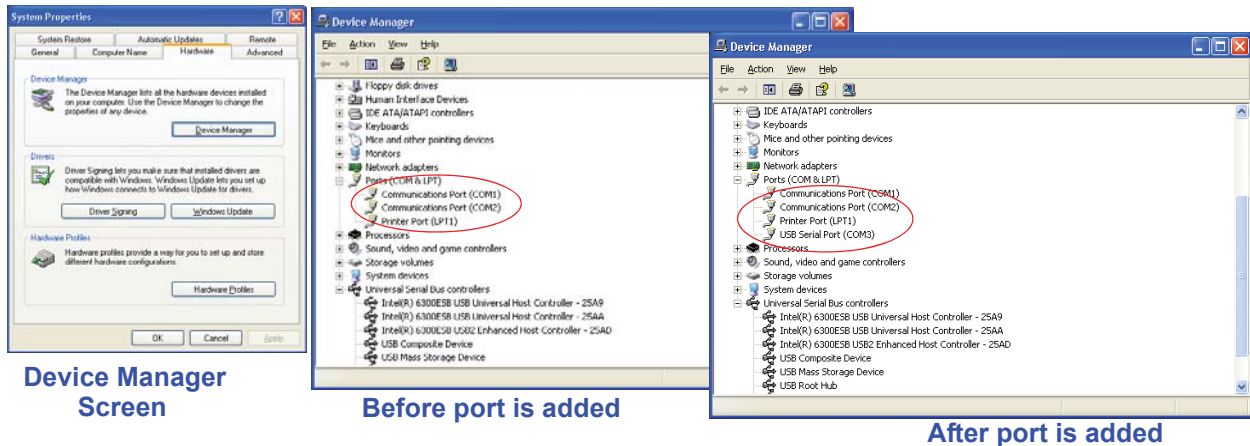

Figure 7-3 Example Device Manager Screens
- Identify the computer port that has been added to the PC by using the “Properties” of My Computer and examining the COM ports. USB ports are generally added to the bottom of the list and named USB COM port “x”. Refer to Figure 7-3 for screen examples (Windows XP).